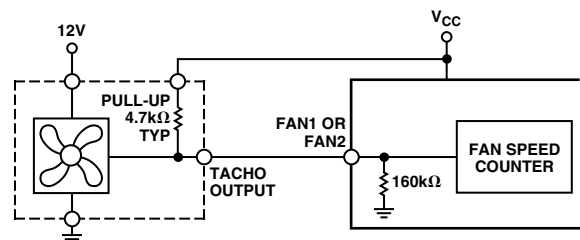

Figure 10a. Fan with Tach. Pull-Up to + $V_{CC}$
1. All of these circuits will provide an output range from zero to almost 12 V, apart from Figure 10a which loses the base-emitter voltage drop of Q1 due to the emitter-follower configuration.
Figures 10a to 10d show circuits for most common fan tach outputs.
If the fan tach output has a resistive pull-up to  $V_{CC}$  it can be directly connected to the fan input, as shown in Figure 10a.